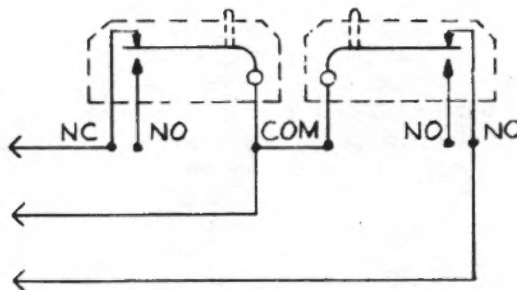

Figure 19. Schematic Showing Switches Indicating End of Tape
The sensing switches use form "C" contacts, and as shown in Figure 19, contacts are in the normally closed (NC) position when no tape is under the pressure guide.